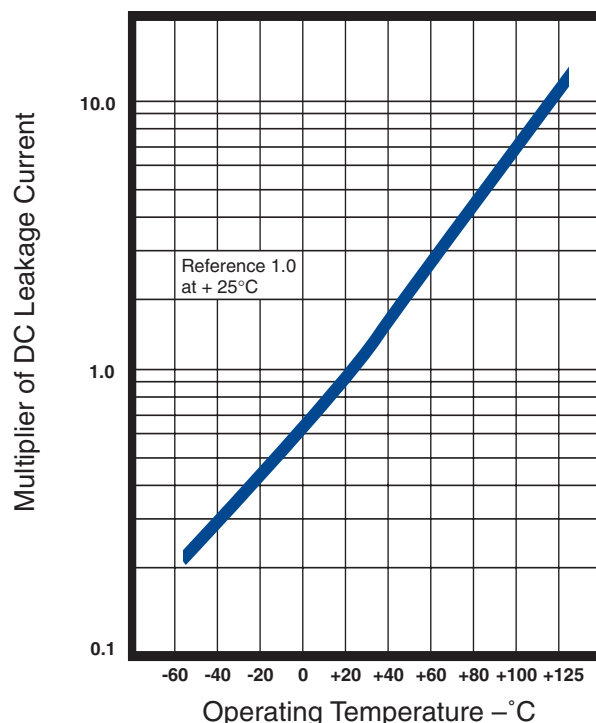
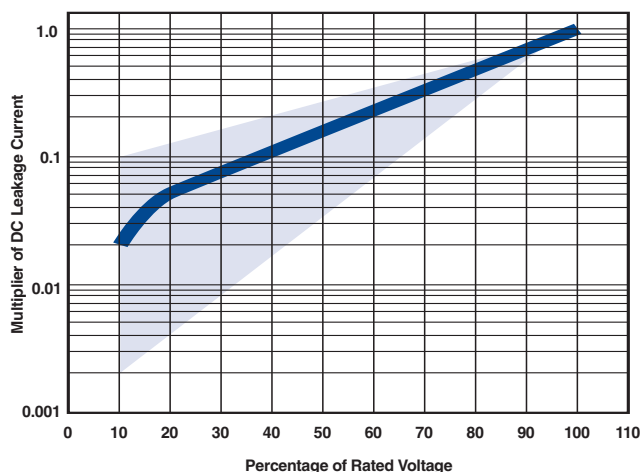

Fig 4 Typical Variation of leakage current with temperature.
Fig 5 Typical variation of leakage current with voltage
**DC Leakage Current** — The DC Leakage current limits of Table I are the lowest generally specified in the solid tantalum industry. Even lower leakage currents are available on special order. Low leakage current, aside from its intrinsic value, is an indication of anode quality. DC leakage current as a function of temperature is represented by the typical curve in Figure 4, while similar information pertaining to leakage behavior with respect to voltage is contained in Figure 5.